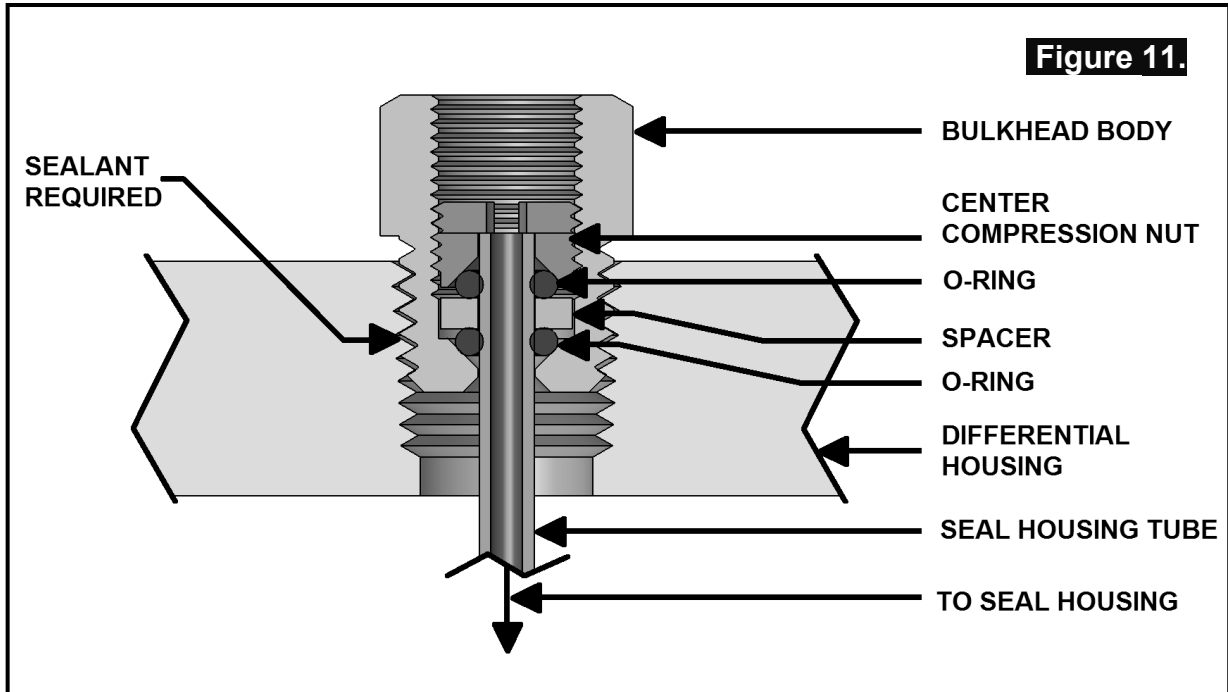

Figure 10.
- Without using sharp, jagged tools such as pliers (your hands are the best tool for this job), bend the seal housing tube on the outside of the housing to approximate the finished profile. This will allow the tube to be trimmed to a length that would allow it to protrude from the bulkhead fitting. (Fig. 10.)